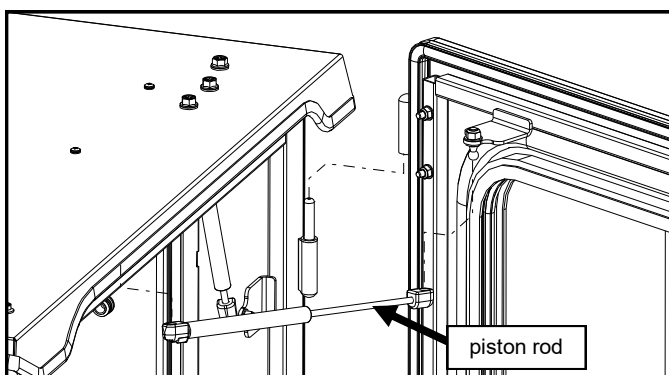

Fig. 18.3 (gas shock installation - left)
**18.3** Install the door gas shocks oriented so that the piston rod is pointing downhill (toward door) for best, continuous seal lubrication and longest gas shock life. See fig 18.3.